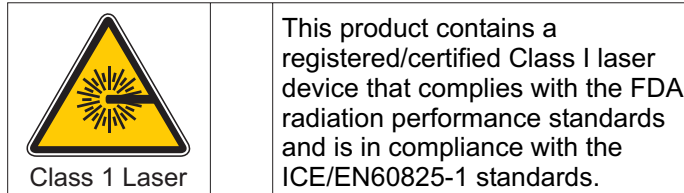

Figure 7. Class 1 laser label
- Class 1 laser label. See Figure 7.